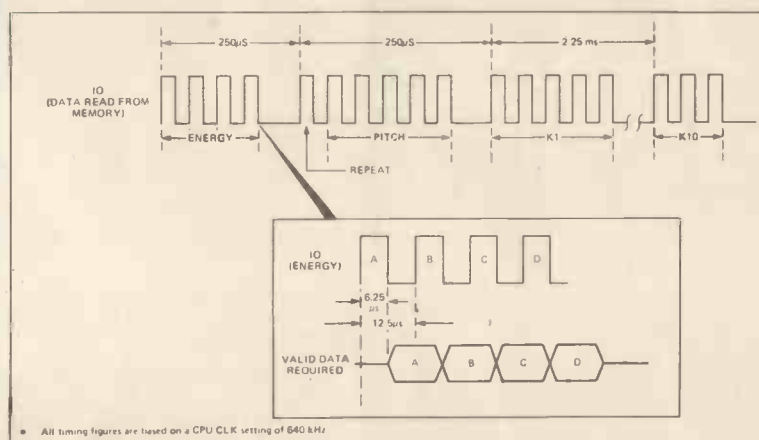

Figure 2. IO Pulse and data input to TMS 5100 in Talk mode.
One small point, reference April edition, page 11 Figure 2, you do not list the transistor types — only ICs. What are they please?
any one frame varies from 4 to 49, depending on the data. The timing of I/O pulses for a maximum length of 49 bits, is shown in Figure 2. Details of the data structure will be discussed in a future article.
- (1) Speech data can be stored externally to the processor in non-volatile memory for stand alone operation.
- (2) Speech data can be supplied from within the processor with synchronisation to suit the TMS 5100 timing (see Figure 2).
Serial data is derived by the use of a 74LS151, an eight-to-one line multiplexer. IC10 data input is fed from the data output of EPROMs. The select input of IC10 is obtained from IC8 which maintains a module-8 count which is incremented once, when a single data bit is accessed by the VSP. The output of the multiplexer is conveyed through IC2a which is used as a single-bit 'shift-register' clocked by I/O pulse. The purpose of IC2a is to synchronise serial speech data such that data requested by a particular I/O pulse (see Figure 2) is stored unchanged despite the bit count and the memory address changing as a result of address incrementation.